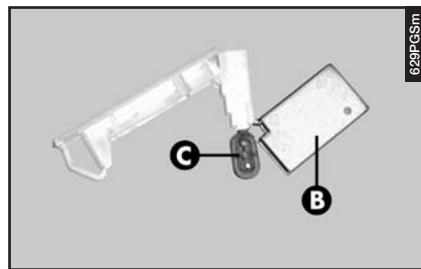

fig. 77
- Press the sides of the bulb screen (**B-fig. 77**) in correspondence with the two fastening pins and turn it.
— Change the bulb (**C-fig. 77**) which is pressure-fitted.